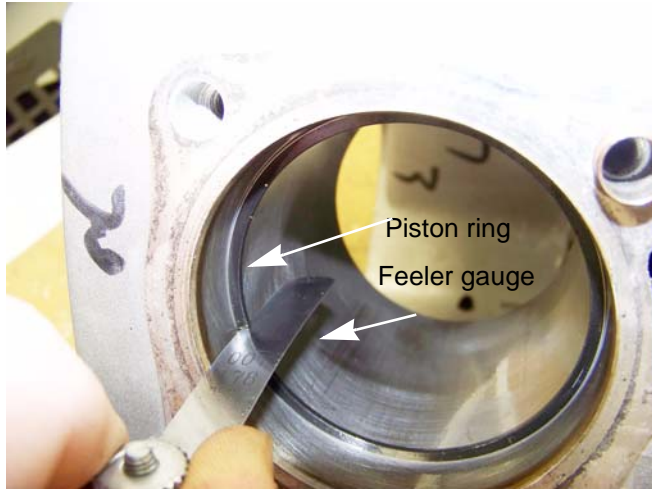

Figure 10.9
3. Insert one ring into the cylinder. Push it down about one inch from the top. See Figure 10.9.
4. Measure the end gap with a feeler gauge and compare to the chart at the end of this chapter. See Figure 10.9.